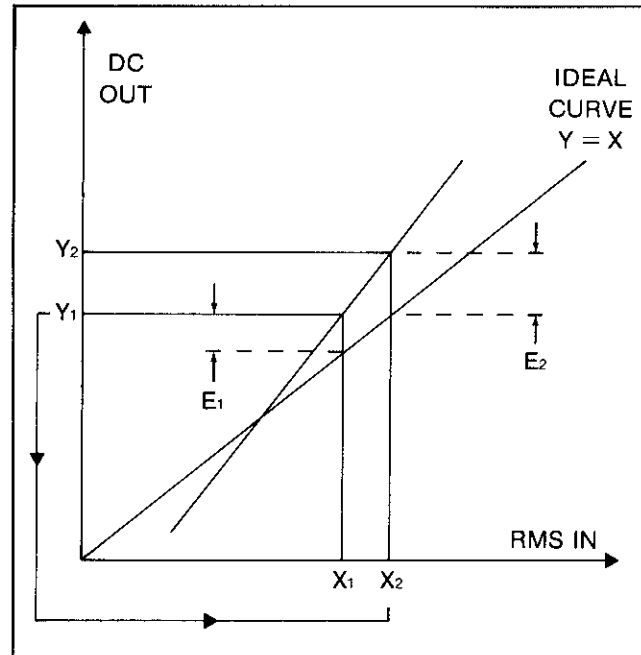

Figure 3-9. Ideal Curve
3-35. Figure 3-9 shows an ideal curve where the rms input (X) equals the dc output (Y), an example of an actual curve, and the positions on the curves for two separate readings. X1 represents the value of the original unknown rms input and Y1 represents the dc value of the sensor output. The difference, or error, between the two values is represented by E1. A second dc voltage (X2) equal to Y1 is applied to the sensor which produces an output Y2. From these it can be seen that:  $Y1 = X1 + E1$ ,  $Y2 = X2 + E2$ , and  $X2 = Y1$ . Substituting these values into the formula  $2(Y1) - (Y2)$  the rms value of the original input can be computed from the following derived formula.